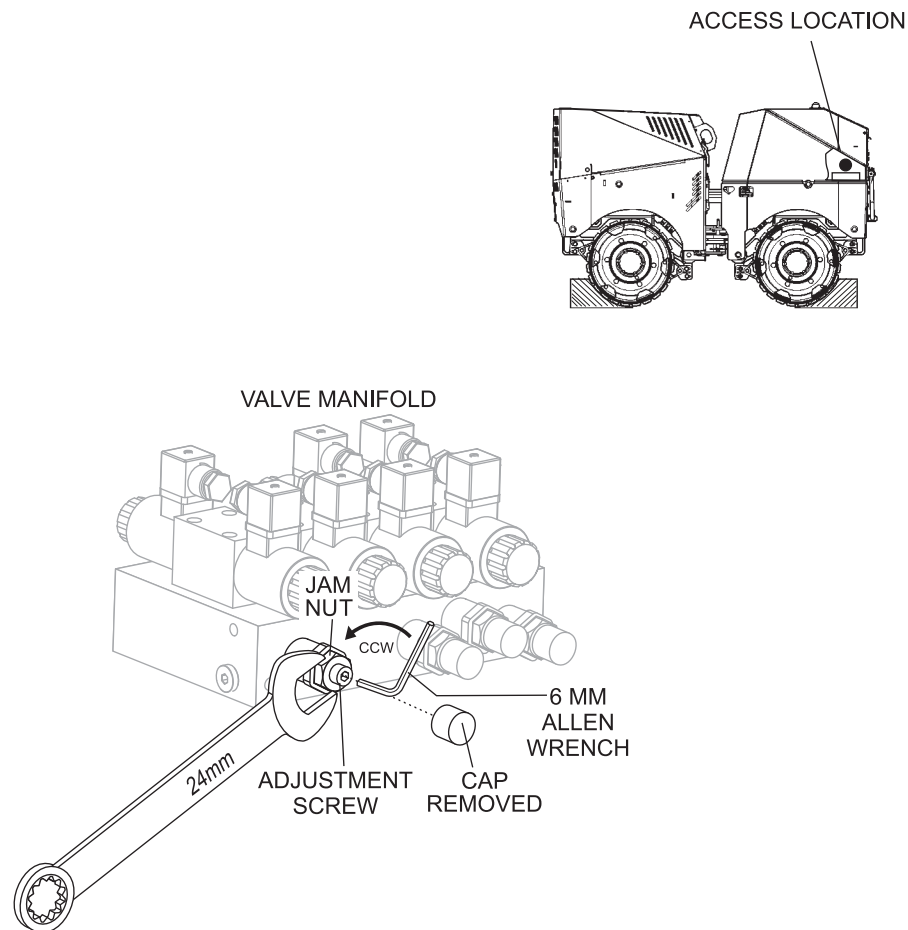

Figure 15. Hydraulic Steering Adjustment
2. Locate manifold valve block (Figure 15).